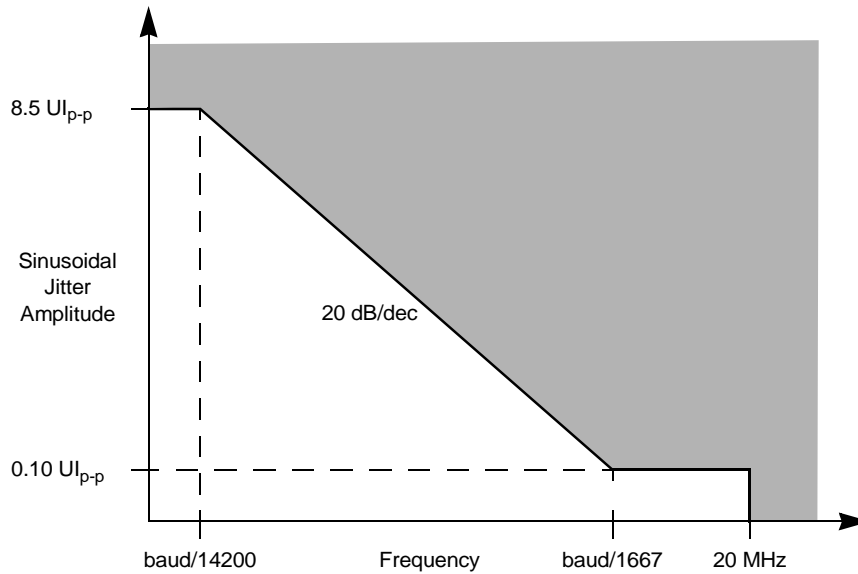
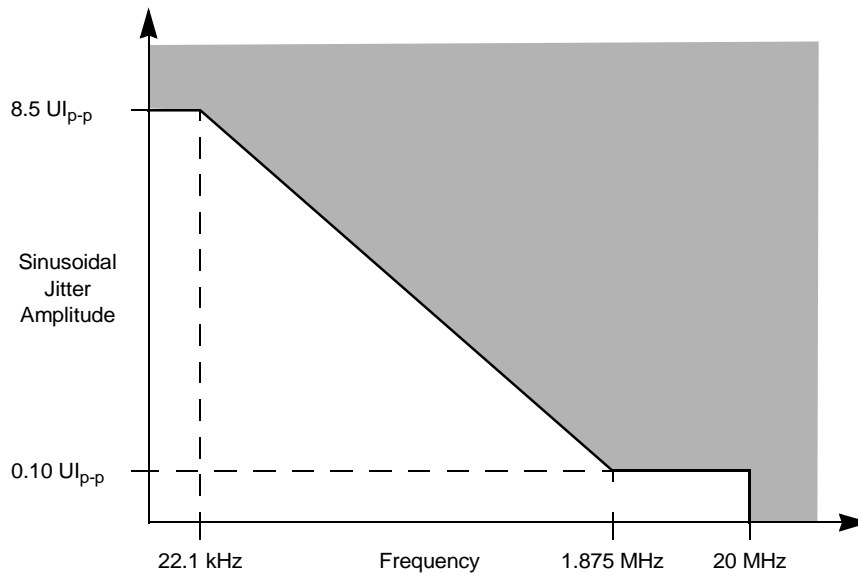

Figure 20. Single Frequency Sinusoidal Jitter Limits for Baud Rate <3.125 Gbps
Figure 21. Single Frequency Sinusoidal Jitter Limits for Baud Rate 3.125 Gbps
**Note:** The AC specifications do not include REF\_CLK jitter. The sinusoidal jitter in the total jitter tolerance may have any amplitude and frequency in the unshaded region shown in Figure 20 or Figure 21.